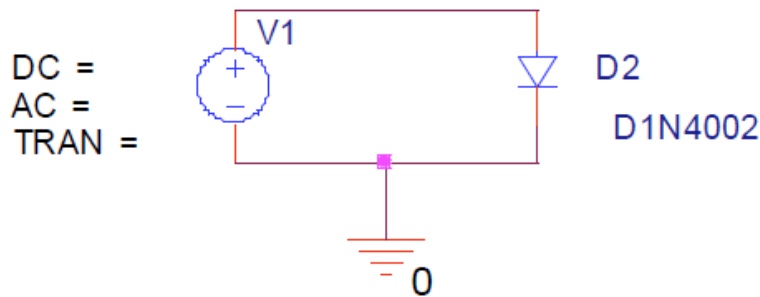

Figure 2.8
1. Start a new PSPICE project and enter the schematic shown in Figure 2.8. The diode should be the D1N4002 from the EVAL library. Use VSRC for the voltage source. Add a current probe at the top (anode) of the diode.
3. Select DC Sweep as the Analysis Type and Voltage Source as the Sweep variable. Indicate the name of your voltage source in the Name box. Note that in Figure 2.8 the example has the source named V1. This may be different for your schematic.